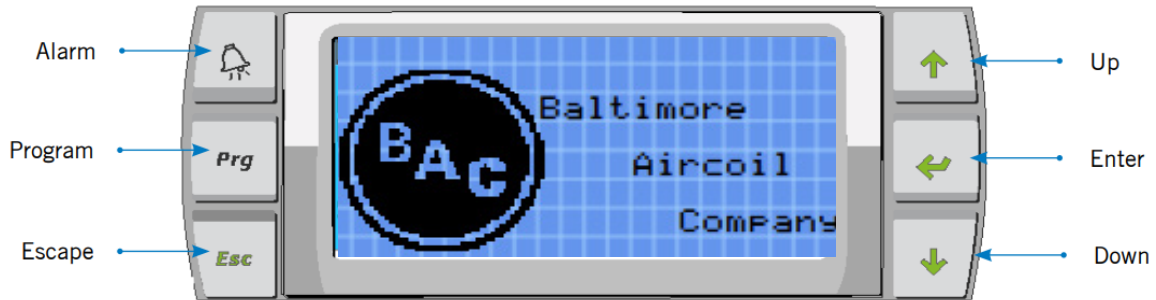

Figure 71. HMI Layout
12. Press the program button as shown in **Figure 71** below.